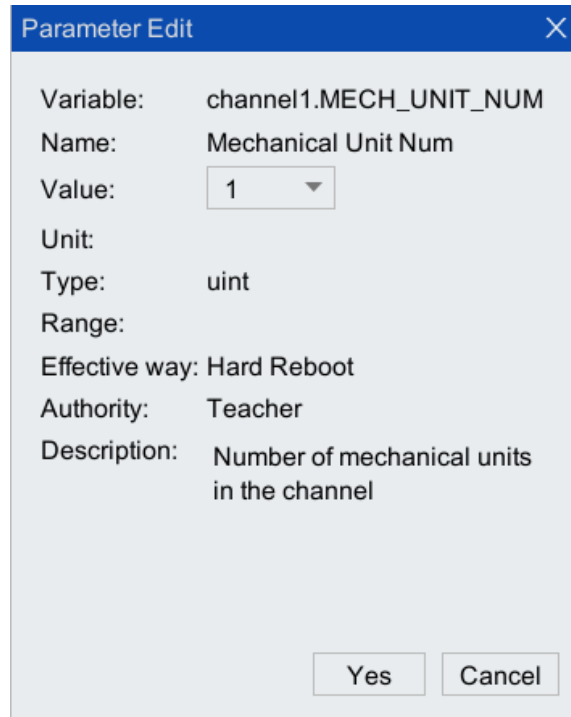

Figure 10-20 Mechanical unit quantity configuration interface
Step4.In the [Channel] configuration interface, click to select the row where [MECH\_UNIT\_NUM (mechanical unit number)] is located, and set the [Value] to "1", as shown in Figure 10-20. Click <Yes> to complete the configuration.